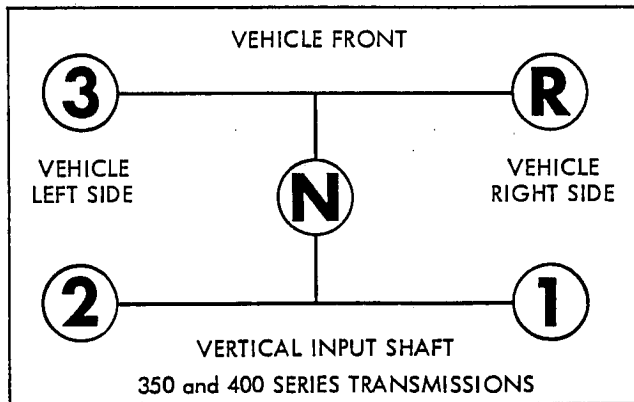

Figure 2-2 Shift Pattern
1. Clean the outside surface of the transmission. Position shift fork in neutral position (Figure 2-2). Remove screws (3) holding shift lever and shift lever housing. Remove shift lever housing. For repair of shift lever assembly, see SECTION 10.
4. Remove two dowel pins by tapping out with metal punch. Remove cover screws (8).